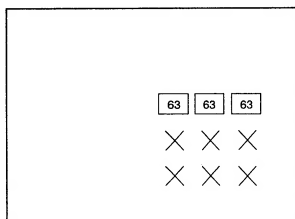

fig. 12
- Adjust the value on the screen to 63 by the volume up/down button. (fig. 12).